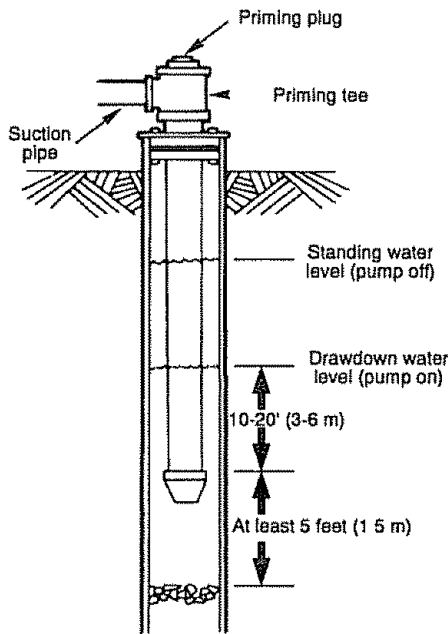
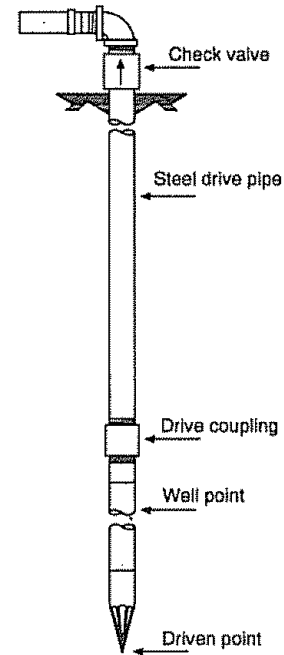

Figure 5 – Cased/Dug Well Installation
Figure 6 – Driven Point Installation
5. When using a foot valve, a priming tee and plug as shown in Figure 5 are recommended.
1. Connect the suction pipe to the drive point as illustrated in Figure 6. Keep horizontal pipe run as short as possible. Use Teflon tape on male pipe threads. Multiple well points may be necessary to provide sufficient water to pump.
2. To aid priming on well point installations, install a line check valve as shown in Figure 6. Be sure check valve flow arrow point toward pump.
NOTICE: For long horizontal pipe runs, install a priming tee between check valve and well head as shown in Figure 5, Page 4. For driven point installations, install a check valve as shown in Figure 6, Page 4. Be sure check valve flow arrow points toward pump.